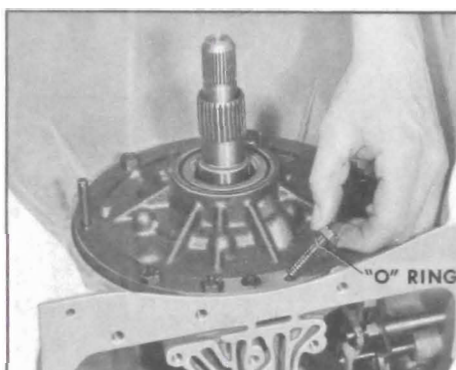

Figure 5-327
5. Remove guide pins and install eight (8) retaining bolts (with new O-rings under head). See Figure 5-327.